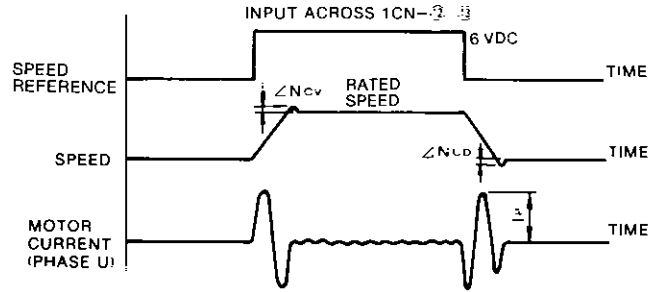

Fig. 10.3 Start-Stop Characteristics
- (3) Start-stop characteristics (Fig. 10.3)